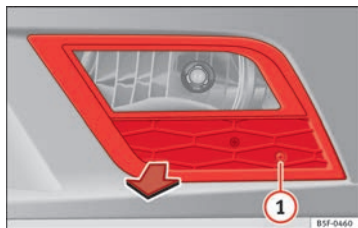

Fig. 191 Fog light.
- Remove the bolt ⇒ Fig. 191 ① from the fog light grille with the help of a screwdriver.